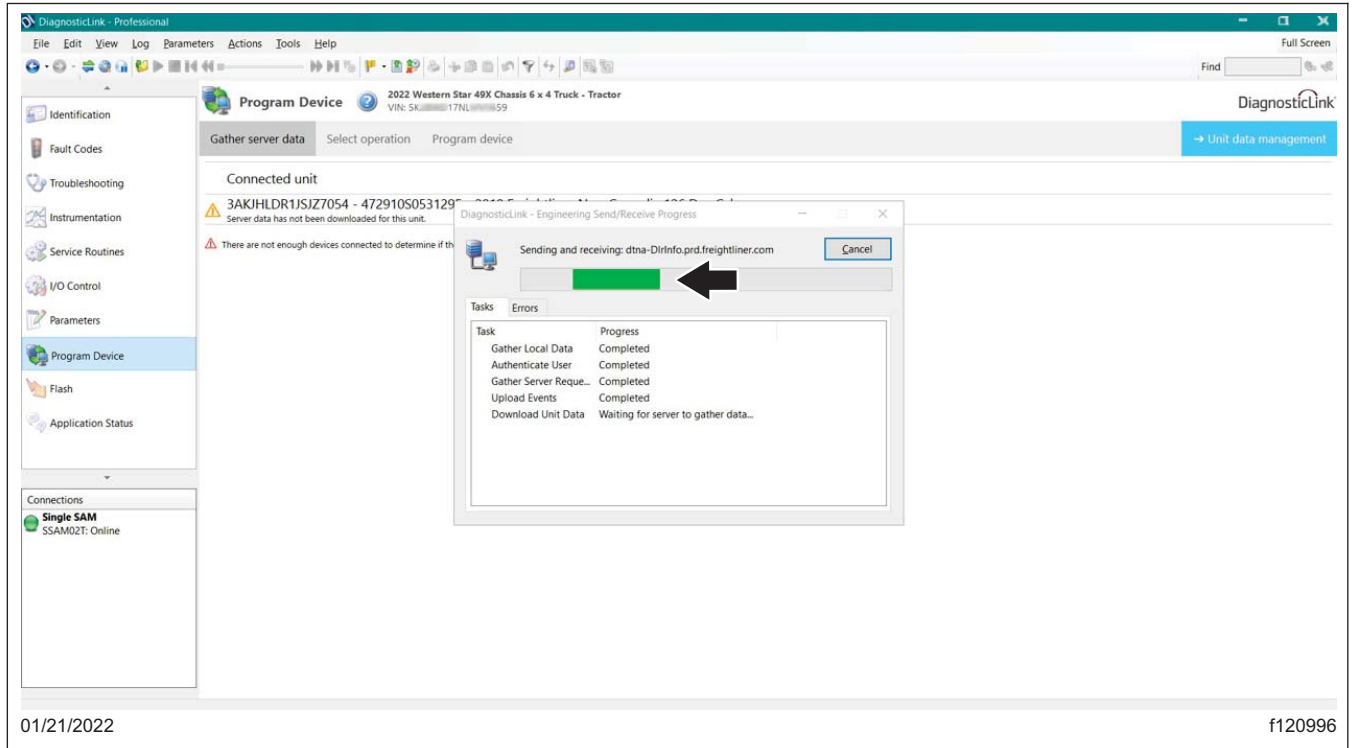

Fig. 10, Server Gathering Information Screen 1
7. A dialog appears with a progress animation as the software is updated. See **Fig. 10**.